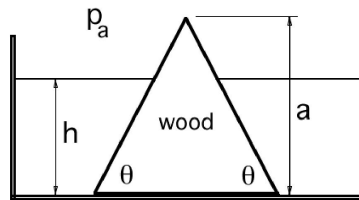

Figure P2.68
- 2.68** A triangular wooden block is resting on the bottom of a tank, as shown in Figure P2.68. Water is slowly added to the tank, and when the depth of the water is $h = a/2$, the block is on the point of lifting off the bottom. Find the specific gravity of the wood.